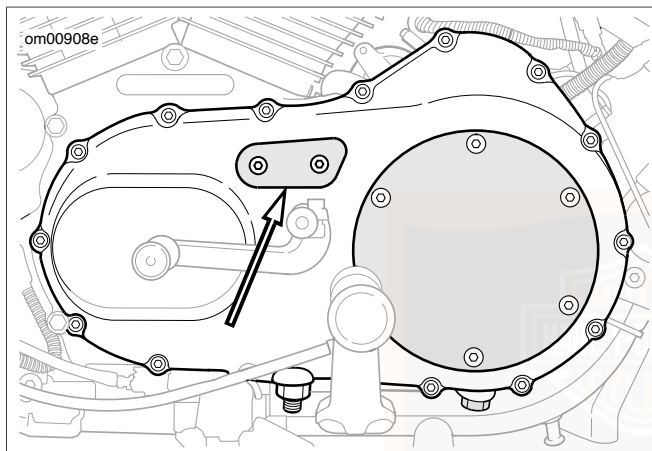

Figure 48. Primary Chain Inspection Cover
2. See Figure 48. Remove the two screws and the primary chain inspection cover.